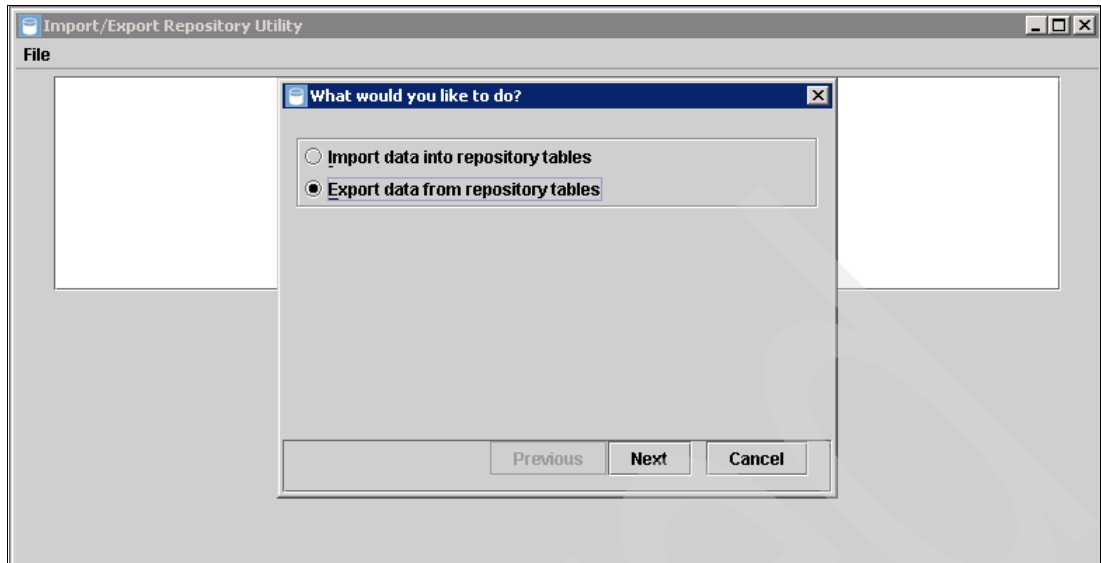

Figure 6-81 Select the Export data from repository tables function
2. Select **Export data from repository tables** (See Figure 6-81 on page 304).